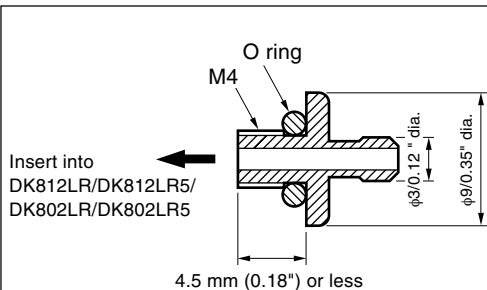

Fig. 3 Dimensions of Fitting
- When using air driving, use the fitting to be attached to the measuring unit as shown in Fig.3. Especially, the length of the M4 screw section to be inserted into the measuring unit should be 4.5 mm/0.18" or less. If the screw is too long, the measuring unit may be damaged.